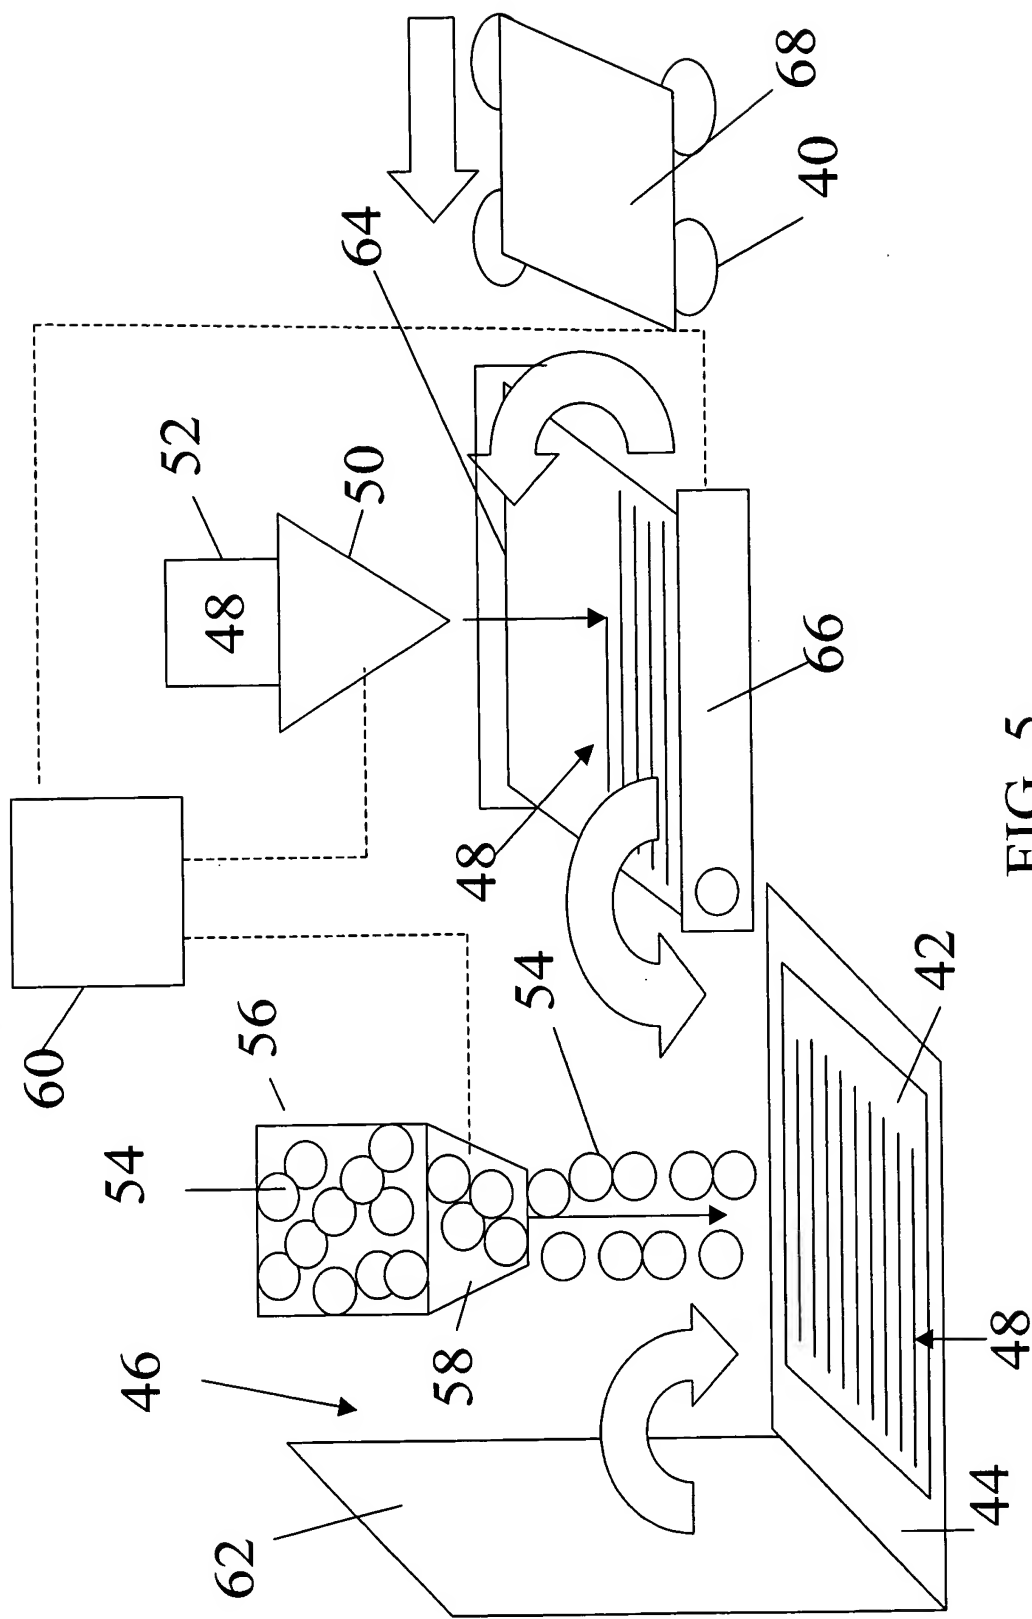

FIG. 5
FIG. 5 is a schematic diagram of a system for processing a material, showing a flow from a source (40) through a series of components (42, 44, 46, 48, 50, 52, 54, 56, 58, 60, 62, 64, 66, 68) to a final output (68).